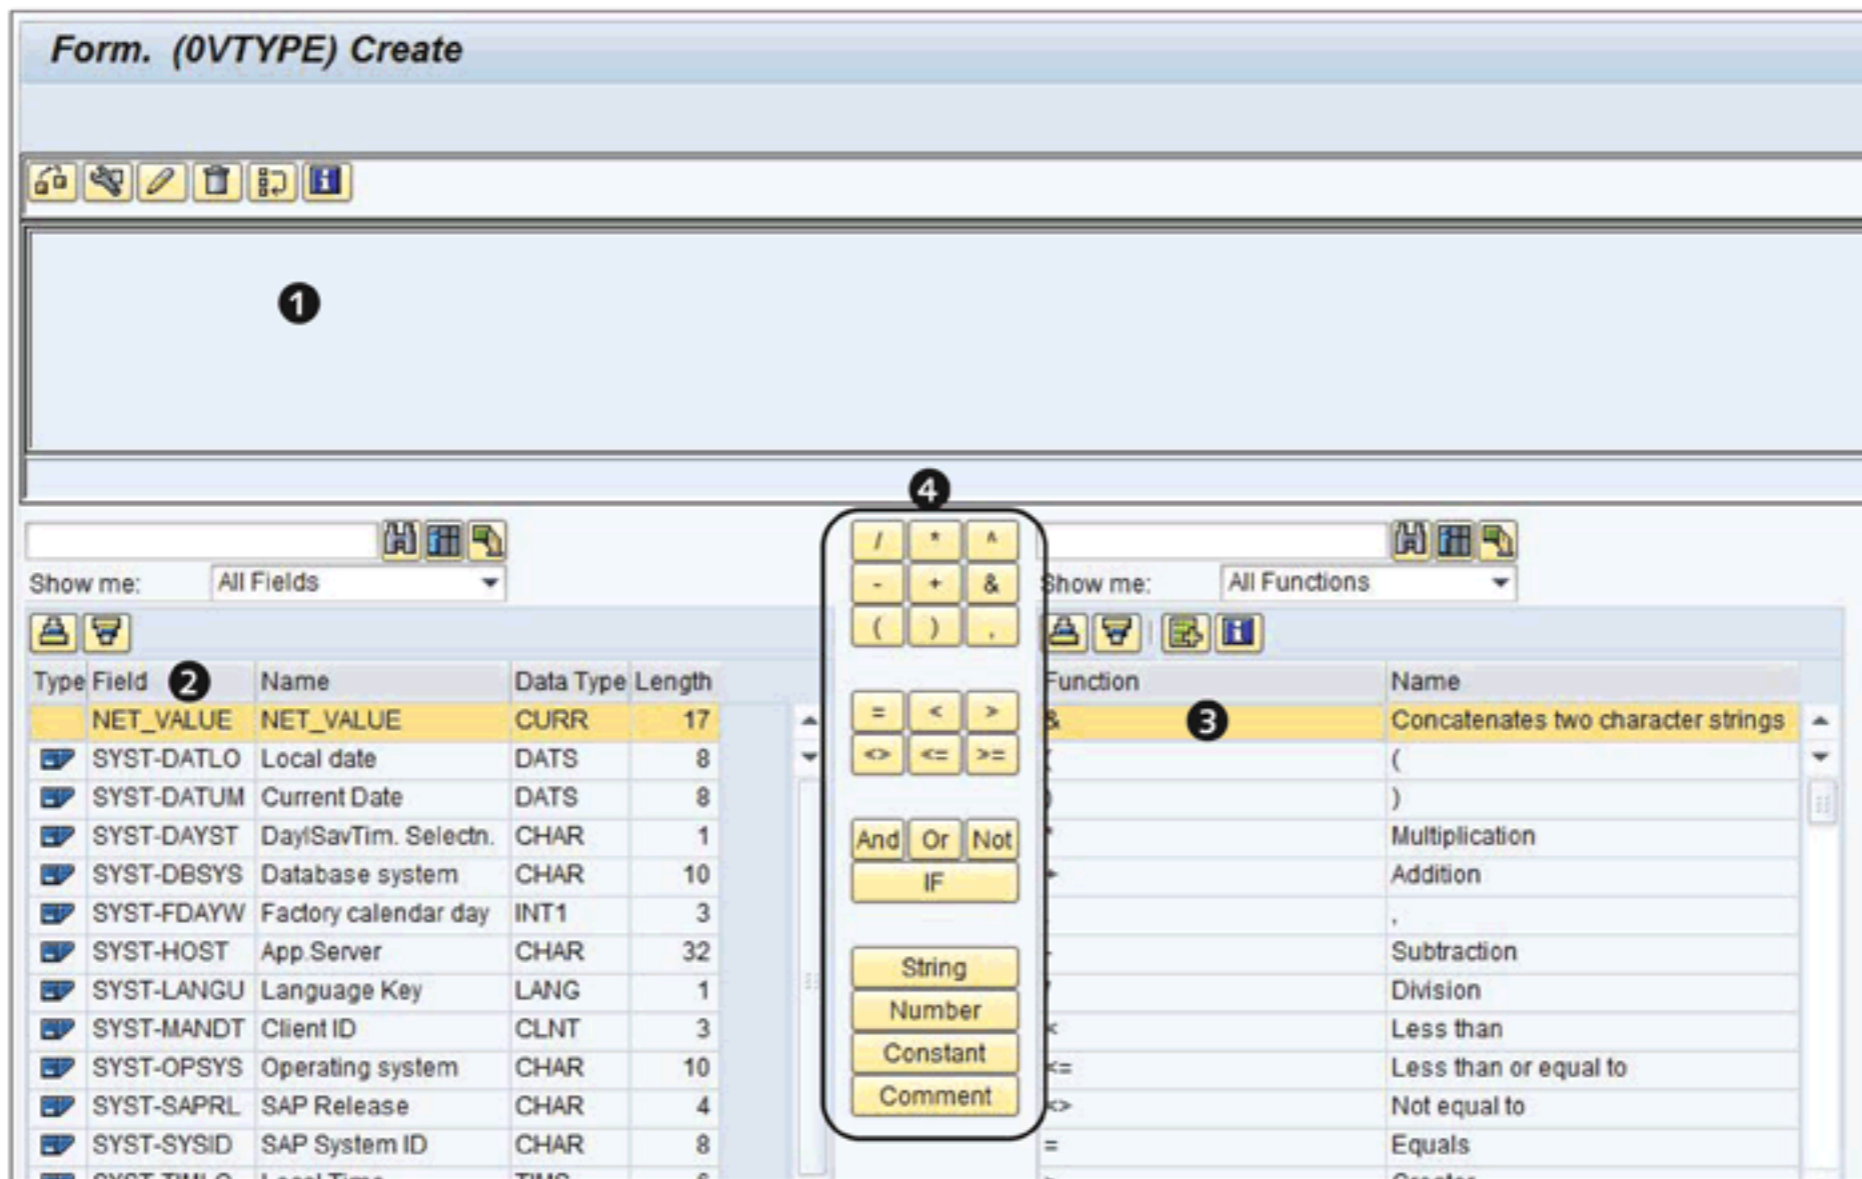

Figure 7.63 Formula Builder
Enter a description for this transformation rule (❺), and then select FORMULA from the RULE TYPE dropdown list (❻). This action results in the FORMULA BUILDER screen shown in Figure 7.63.
The formula builder is a simple but powerful tool that allows nonprogrammers to create simple or complex formulas. It's divided into four different areas: an area to define your formula (1 of Figure 7.63), an area where you can select the fields for the transformation (2), standard functions (3), and various operators used to define formulas (4).